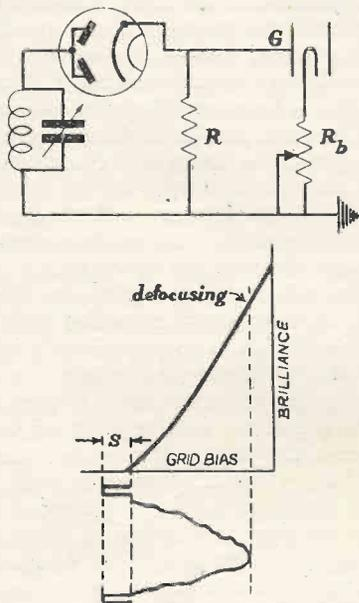

Fig. 1 The tube can be directly connected to the diode as shown, if sufficient voltage is available.
Fig. 1 shows the circuit in which this can be done. The output from the last radio frequency tuned circuit is rectified by the diode and this rectified current flows through the load resistance  $R$ . The grid of the tube is connected to the top of  $R$  and the
The reason for this will be seen on looking again at the curve of Fig. 1 and imagining it to represent the anode current of the video valve. The grid of the valve is biased by the cathode resistance shown, and the signal voltage will increase the anode current in exactly the same way as it increased the brightness of the tube. These variations in anode current will be handed on to the grid of the tube through the coupling condenser, but instead of producing a decrease in bias they will be of such a polarity that they increase the bias. The inclusion of the video valve without any modification has therefore resulted in a reversal of polarity.
4. This should also be compared with Fig. 1 of last month's article.